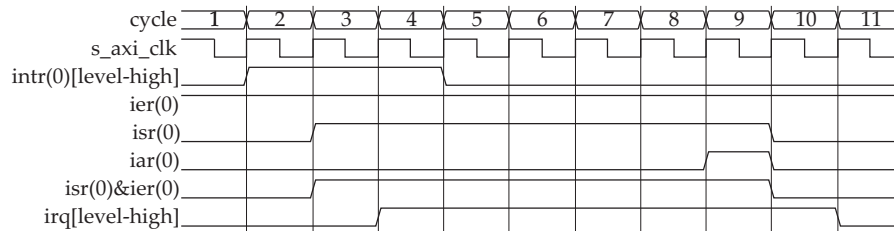

Figure 13: Input Intr - Level Sensitive (Active High) and Output Irq - Level Sensitive (Active High)
- Configured Input Interrupt (Intr) for Level sensitive (active High) and Output Interrupt Request (Irq) to Level sensitive (active High) and is shown in Figure 13.